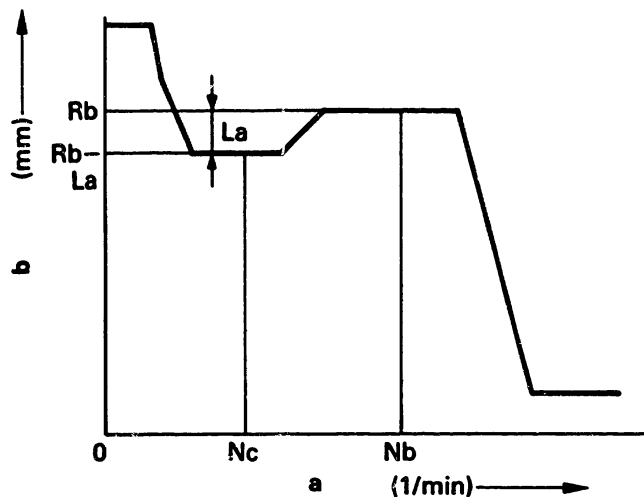

Fig. 89 Torque control range
2. Ensure that, when pump speed is "Nc" rpm, the corresponding control rack position is "Rb" - "La". Furthermore, ensure that when pump speed is "Nb" the corresponding control rack position is "Rb". (Fig. 89)
3. When pump speed is "Nc" rpm fit the torque control spring assembly (331) into guide screw (141), and lock it with lock nut (141) immediately before control rack position "Rb" - "La" changes. (Figs. 89 and 90)